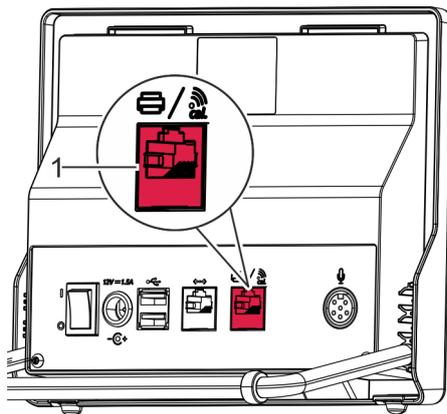

Fig. 12: Printer port
2. ➔ Insert the printer cable into the printer port (Fig. 12/1).